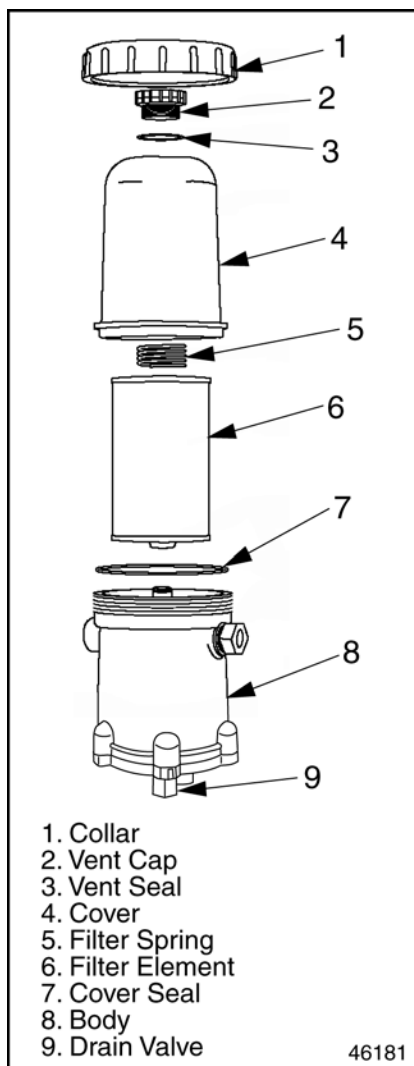

Figure 25 Fuel Pro® 382 Fuel/Water Separator
1. Remove the vent cap, open the drain valve and drain fuel into approved container, until level is below the collar. See Figure 25.